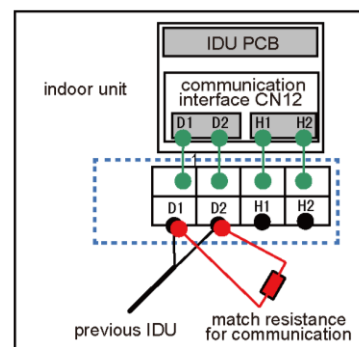

Fig. 5.3.2
- (4) Fix the communication cable with clamp of electric box.
- (5) For more reliable communication, make sure connect the downstream IDU of the communication bus (terminal D1 and D2), as shown in Fig. 5.3.2, terminal resistor to the most terminal resistor is provided with each ODU.